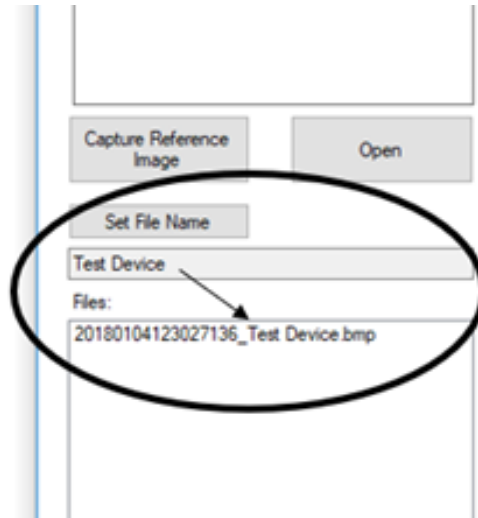

Figure 13A
2. Enter the characters that you would like to be included in the file name. **Fig. 13A**